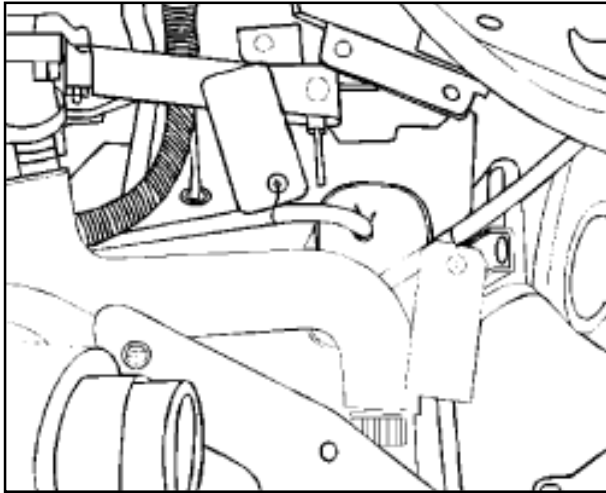

Fig. 4
- For correct reinstallation of vacuum fuel hoses attach tag describing the correct positions (Fig. 4).